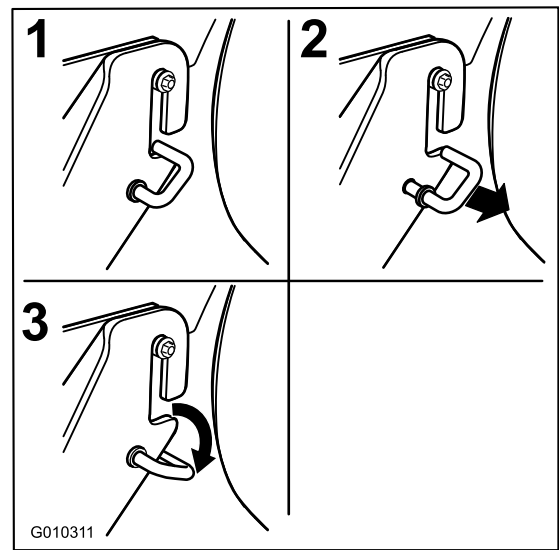

Figure 70
1. Move the spring loaded J-hooks out of the slot in the rear hanger brackets on both sides of the deck (Figure 70).